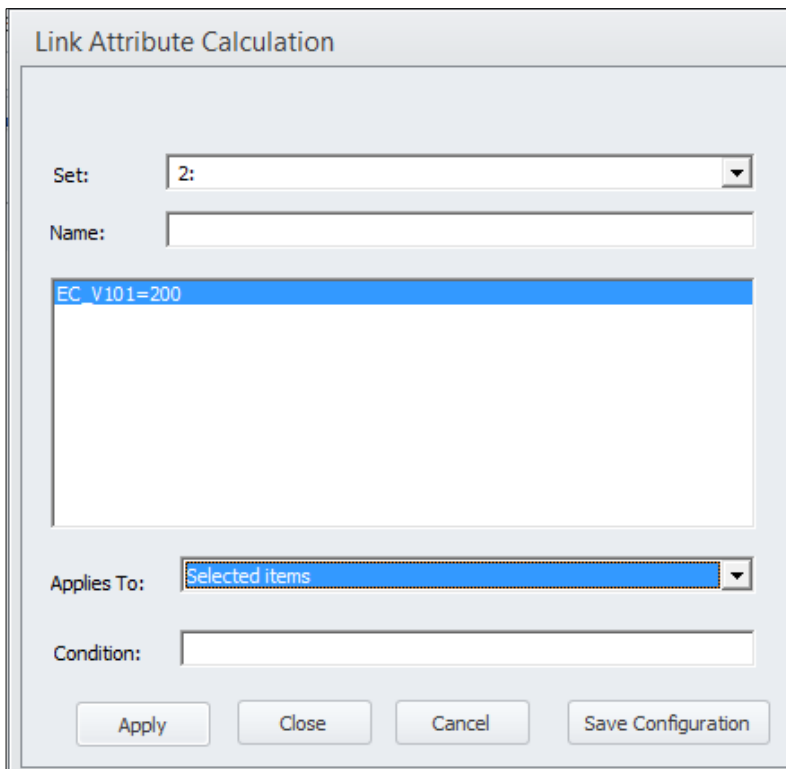

Figure 71 The Link Attribute Calculation window.
- 8) Select Link -> Compute on the main toolbar to access the Link Attribute Calculation window, see Figure 71
- 9) Fill in the fields. To insert edits in the main field in the middle, right click and select "Insert". A window, "Insert Equation", pops up – right-click in the blank field and select the attribute you want to edit, e.g. EC_V101 as in Figure 71, and type in "=" followed by the value. More attributes could be edited by repeating the procedure. In the "Applies To:" drop down menu, select "Selected items"